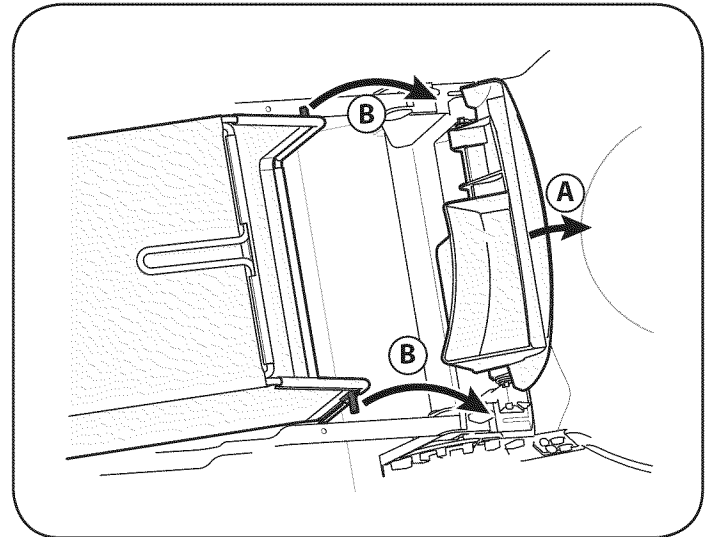

Figure 8
- Lift rear discharge door. See Figure 8.
- B. Place grass catcher into the slots in the handle brackets as shown in Figure 8. Let go of discharge door so that it rests on the grass catcher.